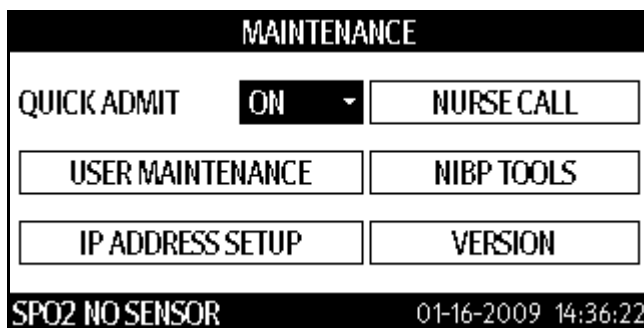
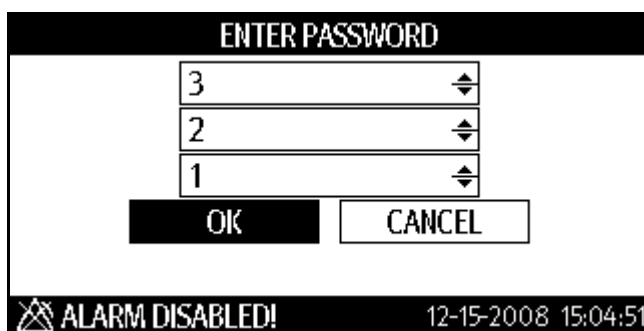
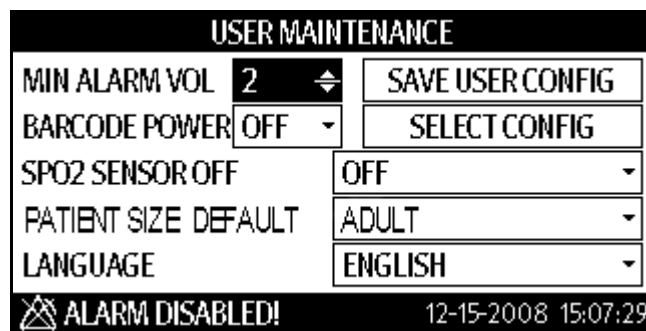
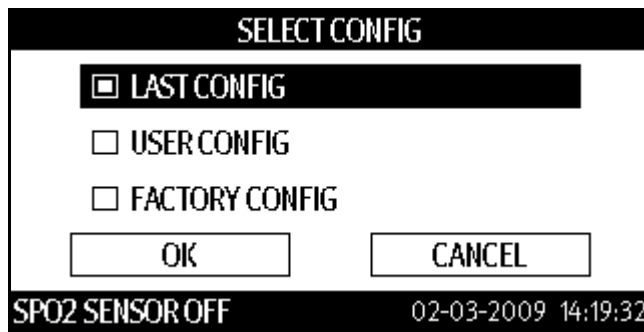

FIGURE 3-26 MAINTENANCE Dialog
FIGURE 3-27 ENTER PASSWORD Dialog
FIGURE 3-28 Example USER MAINTENANCE Dialog
FIGURE 3-29 Default Power-on Configuration Selection Dialog (SELECT CONFIG)
2. Press  (16) or  (19) to select **MAINTENANCE**.
3. Once the **MAINTENANCE** is highlighted, press  (18) to display the MAINTENANCE dialog as shown in FIGURE 3-26.
4. Press  (16) or  (19) to select **USER MAINTENANCE**.
5. Once **USER MAINTENANCE** is highlighted, press  (18) to display the Enter Password dialog, as shown in FIGURE 3-27.
8. Press **OK** (18).
9. Press **▲** (16) or **▼** (19) to highlight the second password digit.
10. Press **OK** (18).
11. Press **▲** (16) or **▼** (19) to set the second password digit to 2.
12. Press **OK** (18).
13. Press **▲** (16) or **▼** (19) to highlight the third password digit.
14. Press **OK** (18).
15. Press **▲** (16) or **▼** (19) to set the third password digit to 1.
16. Press **OK** (18).
17. Press **▲** (16) or **▼** (19) to highlight **OK**.
18. Press **OK** (18) to display the USER MAINTENANCE dialog as shown in FIGURE 3-28.
1. Follow steps 1 to 18 above to access the USER MAINTENANCE dialog as shown in FIGURE 3-28.
2. Press **▲** (16) or **▼** (19) to highlight the BARCODE POWER selection field.
3. Once the selection field is highlighted, press **OK** (18) select it.
4. Press **▲** (16) or **▼** (19) to select ON or OFF.
5. Once the selection is highlighted, press **OK** (18) select it.
2. Press  (16) or  (19) to highlight the LANGUAGE selection field.
3. Once the selection field is highlighted, press  (18) select it.
4. Press  (16) or  (19) to highlight a language.
5. Once the selection is highlighted, press  (18) select it.
2. Press  (16) or  (19) to highlight the MIN ALARM VOL selection field.
4. Press  (16) or  (19) to change the value to 0.
6. Press  (12) again to exit to the SYSTEM SETUP dialog.
7. Press  (16) or  (19) to highlight **COMMON SETUP**.
2. Press  (16) or  (19) to highlight the SPO2 SENSOR OFF selection field.
3. Once the selection field is highlighted, press  (18) to select it.